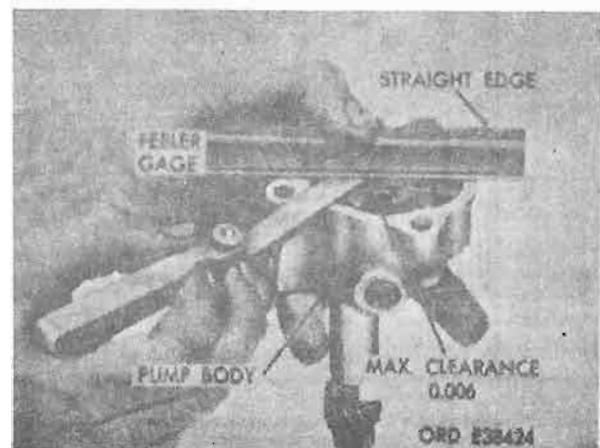

Figure 4-187. Oil pump gear and clearance.
(2) *End clearance.* Place straightedge on pump body over pump gears and check clearance between gears and straightedge with a feeler gage. If clearance is more than 0.006 inch, replace pump (table 4-10 and fig. 4-187).